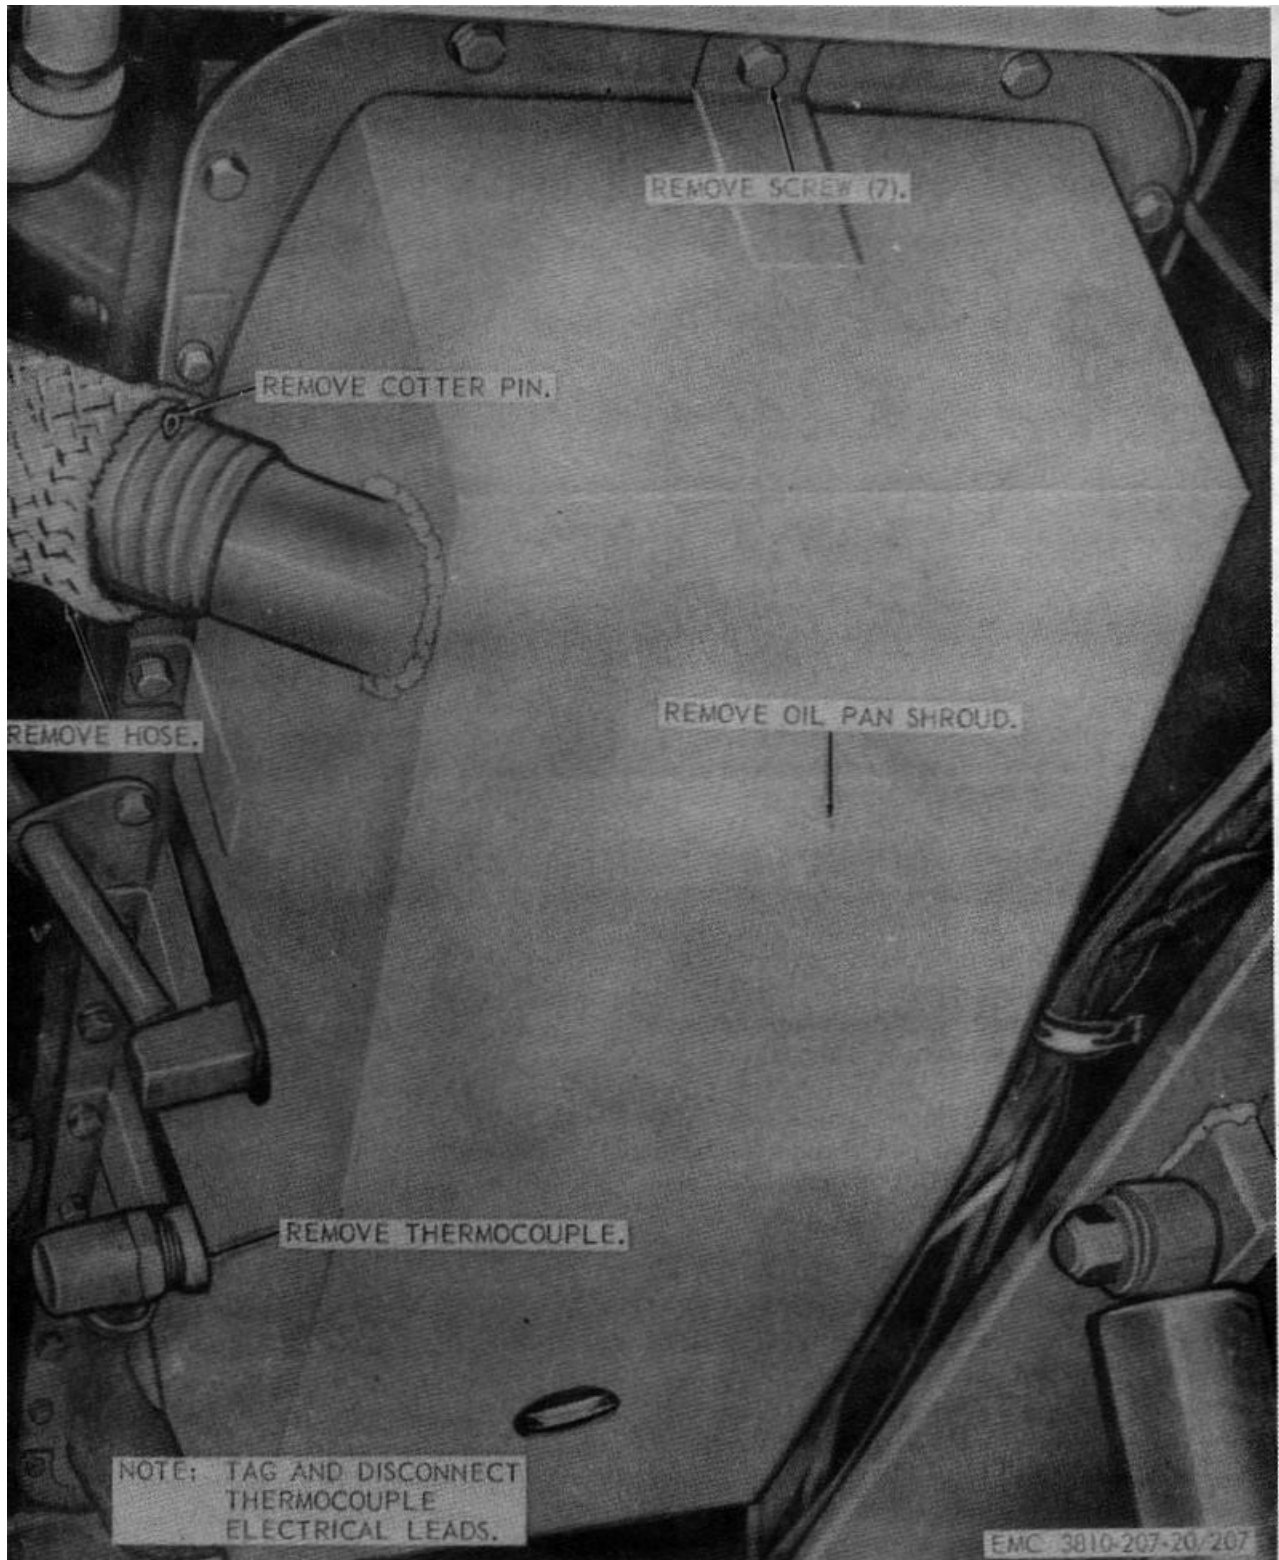

Figure 207. Thermocouple and oil pan shroud, removal and installation
- (2) Remove the thermocouple and oil pan shroud as instructed on figure 207.
- (1) Install the thermocouple and oil pan shroud as illustrated on figure 207.
- (2) Fill engine crankcase (LO 5-3810-207-20).